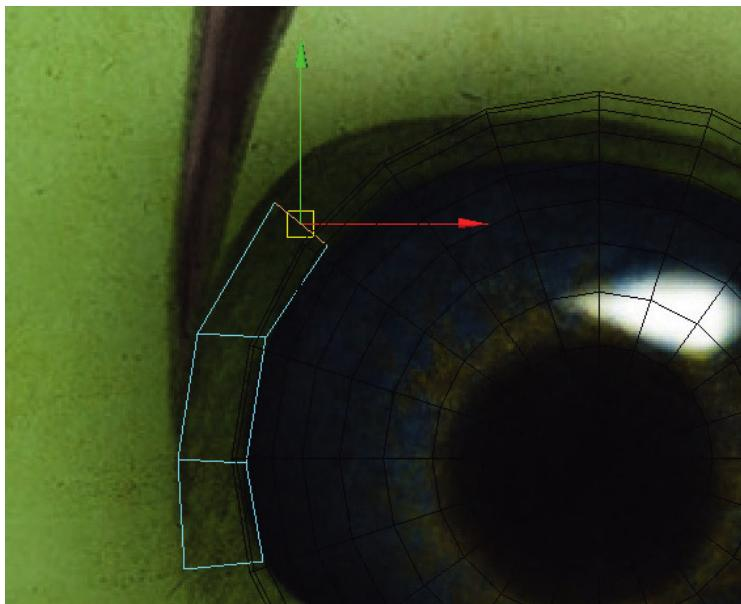

FIG 4.8 Extruding, but also taking the time to rotate the edge.
Step 18: Repeat, and extrude, but make sure that in addition to moving the new edge up use the rotation handles (blue circle) to rotate the edge as well (Fig. 4.8).